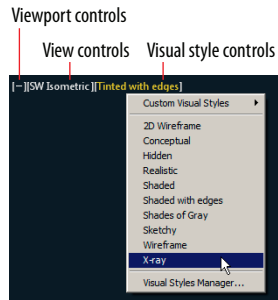

FIGURE 16.6 In-canvas controls
- You can also change visual styles using the in-canvas controls located in the upper-left corner of the viewport. Select the Visual Style Controls to open a menu (see Figure 16.6).